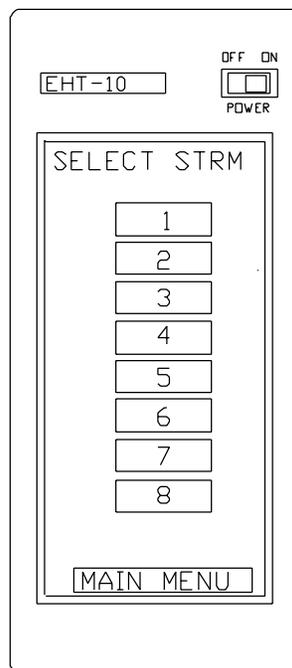

Figure 7 Select Streams Menu
- * Press **Data Strm** on the FST Main menu. The hand terminal displays the Select Streams menu, as shown in figure 7.